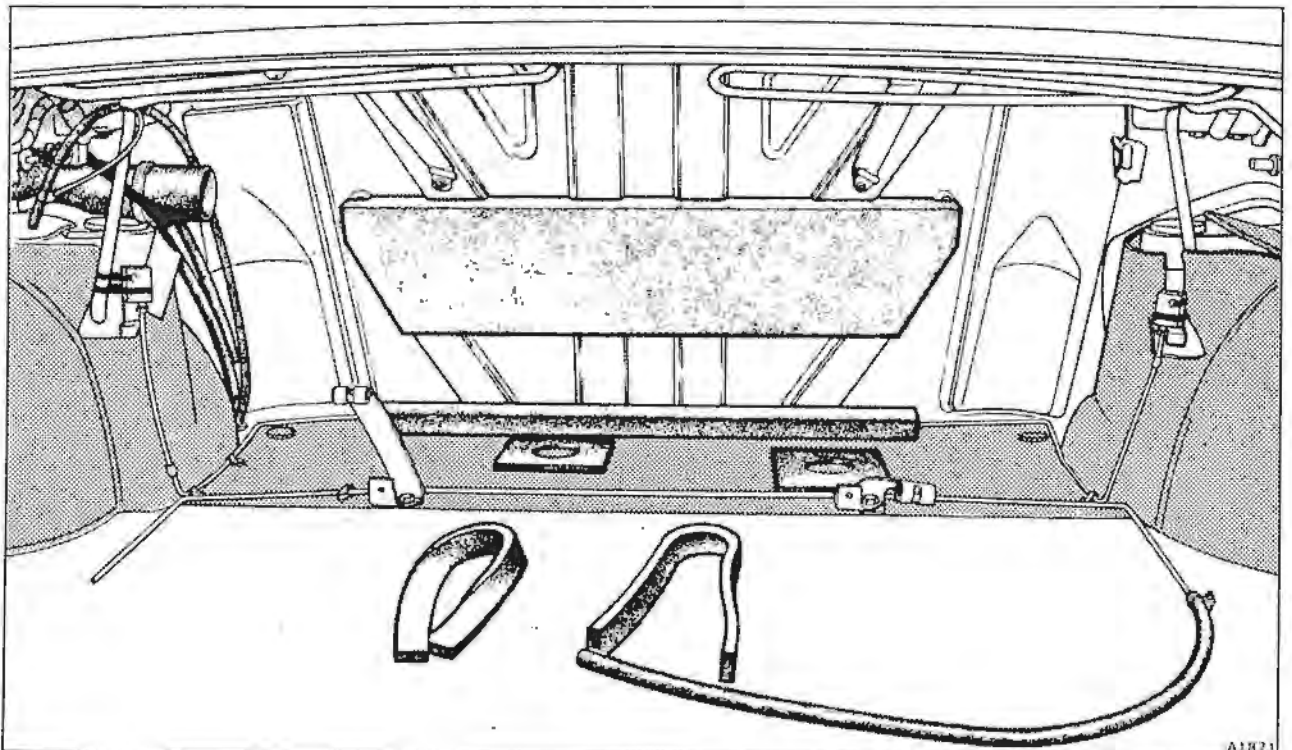

Fig. C2-2 Fuel tank mounting pads and straps (4 door cars)
**Note** The position of all pads and strips are illustrated in figures C2-2 and C2-3. All pads and strips should be secured in position using an appropriate adhesive (refer to TSD 4700, Chapter S).